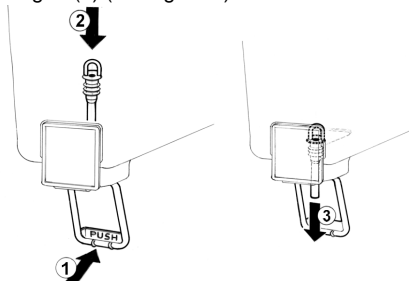

figure 4
2 **Pinch tube faucet:** push the dispensing handle (1) and insert the pinch tube into its vertical seat in the bowl bottom(2). Lightly pull the pinch tube end downwards til itl is well arranged (3) (see figure 4).